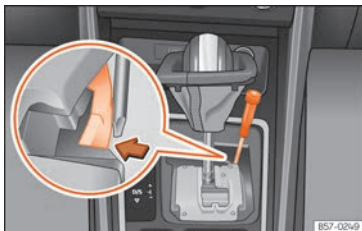

Fig. 137 Gear selector lever: manual release from the parking position.
- Using the flat part of a screwdriver, press the yellow tab sideways and keep it pressed down » » Fig. 137.